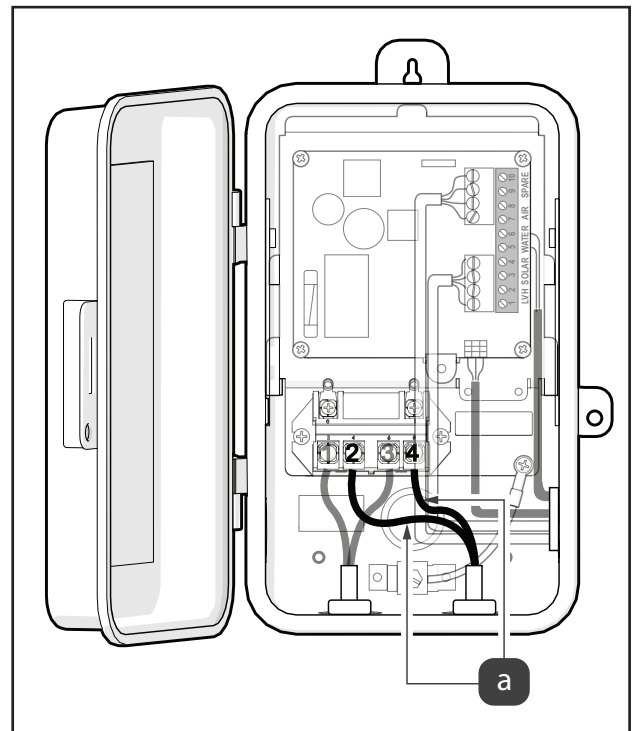

Figure 4. Connect Load Input Cables
9. Connect one “Load” input to Terminal 2 and the other to Terminal 4, see Figure 4 (a).